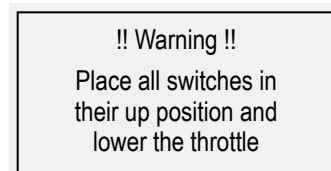

Fig. 4
- > If not all auxiliary switches are in their neutral or zero position (position 1) a warning message (See. [Fig. 4]) will appear and audible alert sounds be emitted. In this case, turn the »Transmitter off and set all switches to position 1 before turning it on again.